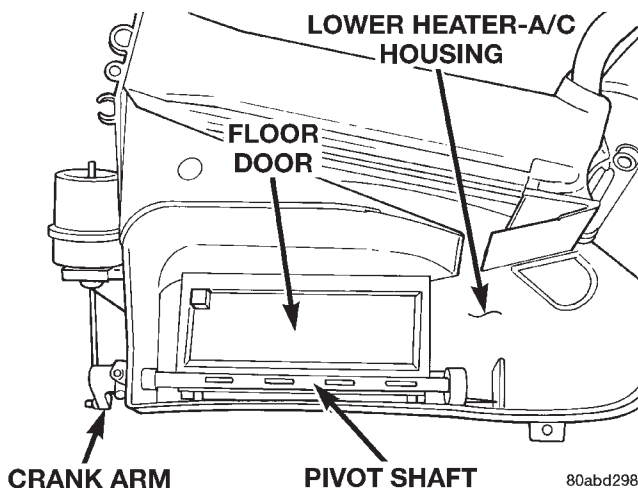

Fig. 53 Floor Door
- (4) Reach inside the lower half of the heater-A/C housing and carefully flex the floor door (Fig. 53) enough so that the door pivot clears the pivot hole in the housing.
- (5) Remove the floor door from the heater-A/C housing.
- (6) Reverse the removal procedures to install.